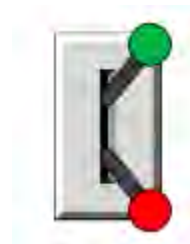

Figure L2.1 - Simple Switch
3. The switch we will build contains two rectangles for the plate, and a switch with two states, which contains two more rectangles and two circles. Your switch may look similar to the one shown in Figure L2.1.